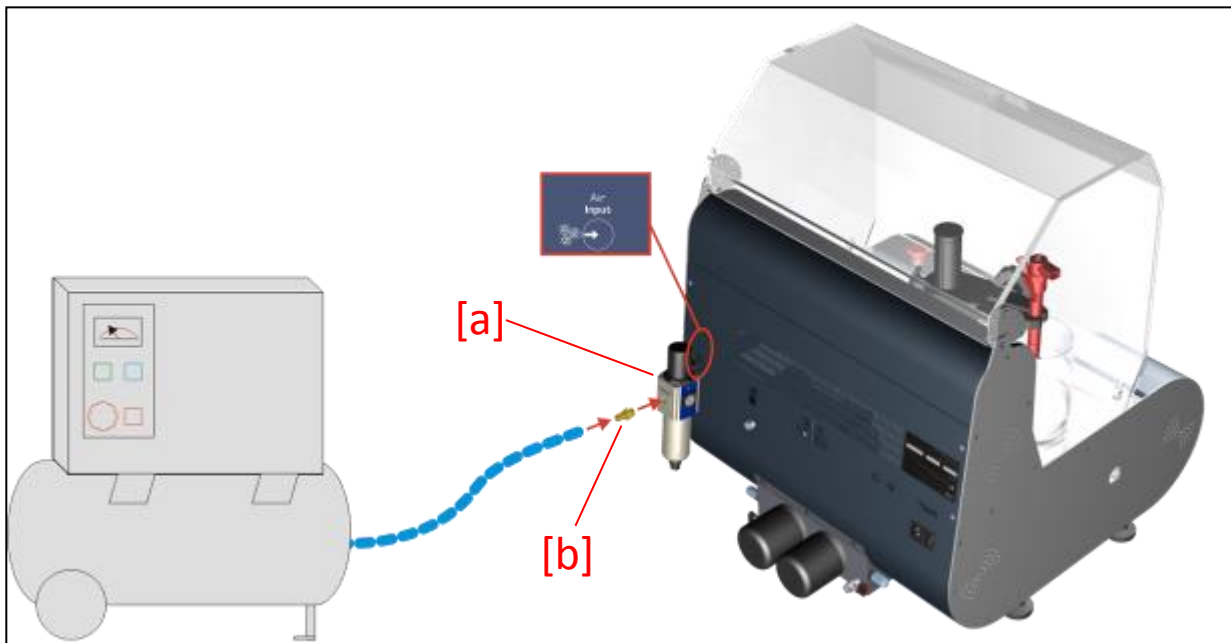

Figure 3-iii
1. Use a hose fitting [b] (not provided) to connect the Water Trap / Regulator to the hose that leads to the Shop Air Compressor (Figure 3-iii)
2. [Optional] Disconnect the Fumes Extractor Exhaust Port muffler/filter [c] (Figure 3-iv) and connect a large diameter hose in order to reduce fumes and noise.